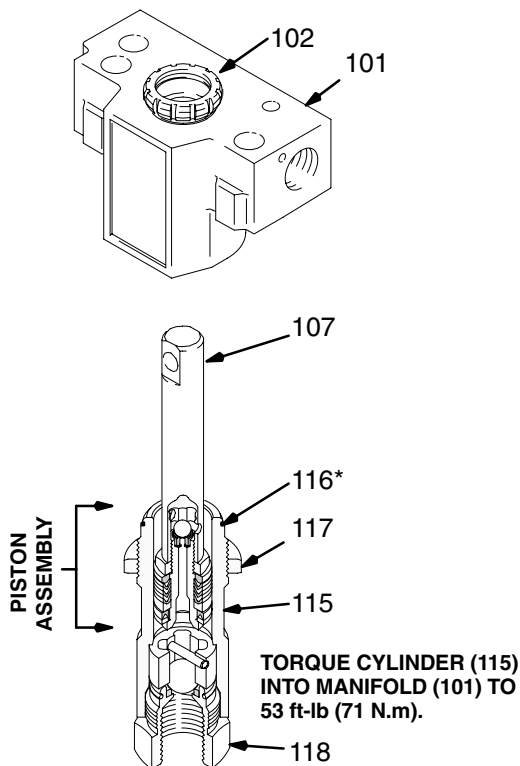

Fig 7
10. Install the packing nut (102) and plug (124), but leave loose for now. See Fig 7.
11. Place a new o-ring (116\*) firmly in the cylinder (115) groove. See Fig 7.
12. Coat the piston rod and packings with oil. Carefully slide the assembly **INTO THE TOP OF THE CYLINDER (115)**. See Fig 7.
13. Place the intake valve (118) in a vise and assemble its parts. See page 4. Screw the cylinder (115) onto the valve (118). Turn the jam nut (117) all the way down. See Fig 7.
14. Put the manifold in a vise. Guide the rod/cylinder assembly up through the manifold (101). Screw the cylinder (115) into the manifold and tighten to 53 ft-lb (71 N.m). See Fig 7.
15. Tighten intake valve (118) to 53 ft-lb (71 N.m). See Fig 7.
16. Tighten the cylinder jam nut (117) to 73 ft-lb (98 N.m). See Fig 7.